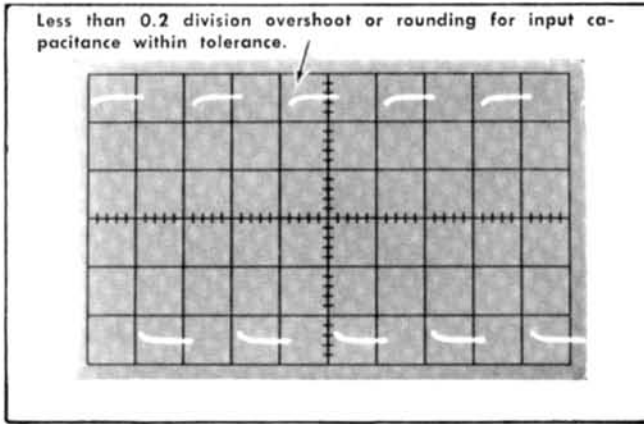

Fig. 6-9. Typical CRT display when checking input capacitance.
- e. CHECK—CRT display for 0.2 division, or less, overshoot or rounding (47 pF, ±4 pF; see Fig. 6-9).